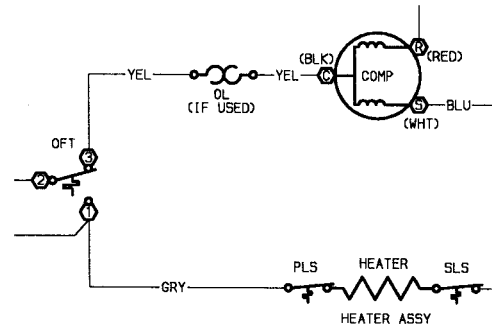

FIGURE 55 — OUTDOOR FROST THERMOSTAT (OFT) CONTACTS, ALL 52SQ AA AND CP MODELS
■ **OUTDOOR FROST THERMOSTAT (Heat Pump Units) (Figure 55)** — The Outdoor Frost Thermostat (OFT) is a thermostat that uses a single-pole switch with a manual override selector. The thermostat switches between electric heat and compressor operation when the temperature of the outdoor coil falls below 15 F or rises above 35 F. Switching the override selector to electric heat disables the reverse cycle operation of the thermostat is manually switched to electric heat operation, the compressor is disabled for heating and cooling operations.